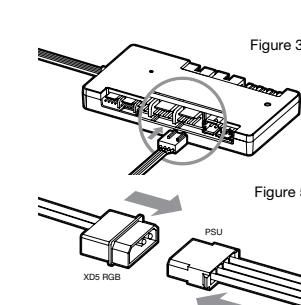

Figure 5
6. Connect the XD3/XD5 RGB's main power cable by plugging in a 4-pin Molex connector from your power supply (Figure 5).
6. 通过插入电源的4引脚Molex接头来连接XD3 / XD5 RGB的电源线(图5)。